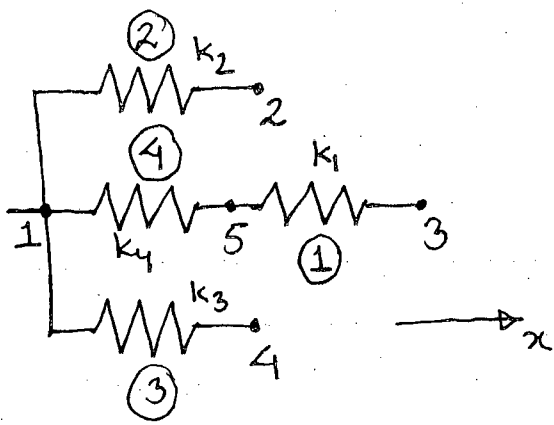

Fig. 1
1. (a) Is FEM an exact method of analysis? Explain why? (5)
- (b) For the spring system shown in Fig. 1, find the global stiffness matrix. (12)
- (b) Calculate the percentage uplift pressure at the key points for the intermediate pile line using Khosla's theory for a barrage foundation profile shown in Figure 1 applying necessary corrections. Assume the thickness of the floor is 0.8 m. Also, determine exit gradient considering upstream pond level at 103 m. The correction factor for 1:4 slope is 3.3. (17)